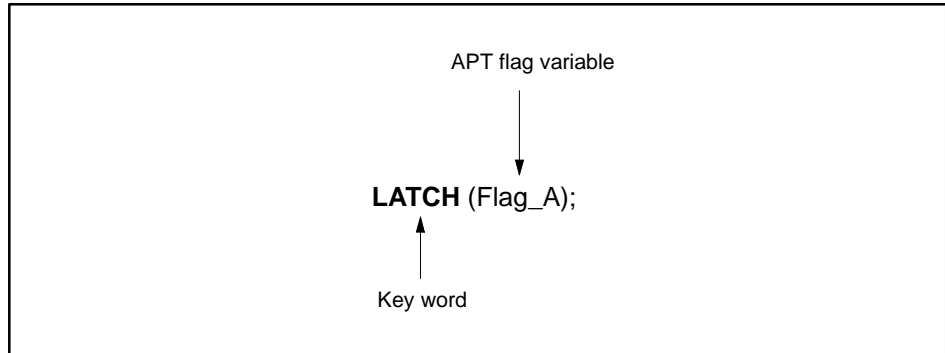

Figure 11-27 LATCH Procedure
- The variable in the parentheses is the APT flag that is turned on (true). See the example in Figure 11-27.